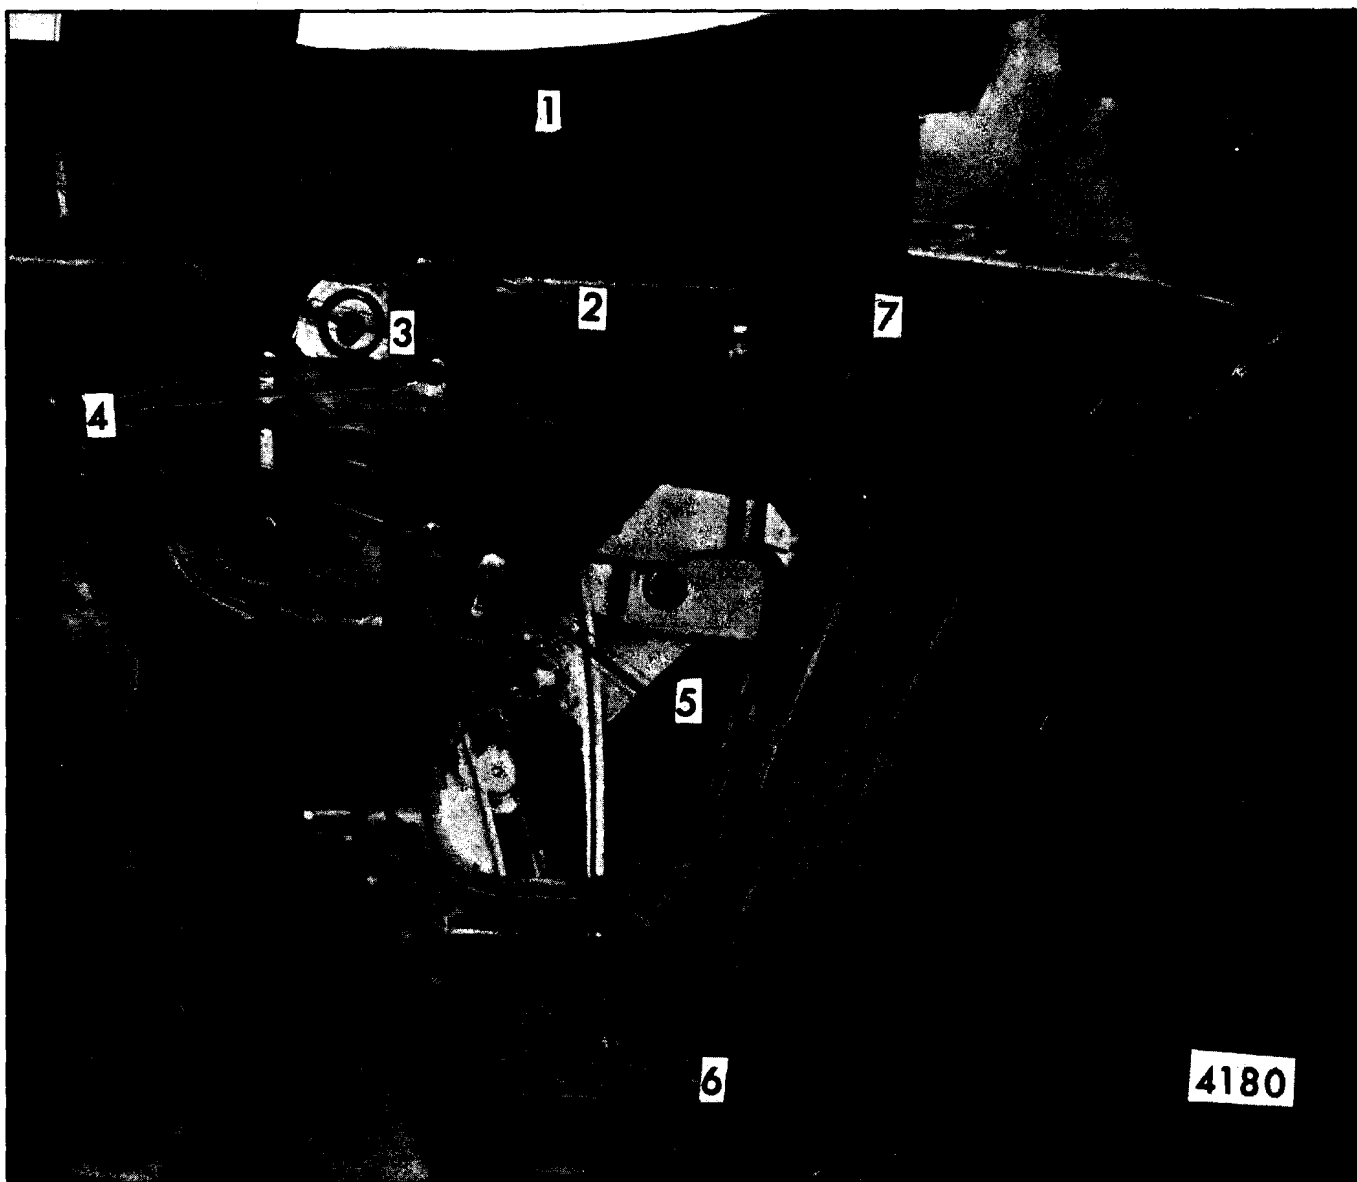

Fig. 7-18-Rear Quarter Hardware - "B-C-47, 57" Styles (All "E" Body Styles Similar)
3. Remove upper support to guide bolts ("1" Fig. 7-18 and 7-19). Remove lower support guide bolt ("6" Fig. 7-18 and 7-19) and lower window glass and guide assembly into quarter panel to gain access to outer sealing strip attaching rivets.
3. Remove rear up-travel stop bolt ("7" Figure 7-18 and 7-19) and remove stop from inner panel.
4. Remove lower down-travel stop bolt ("5" Figure 7-18 and 7-19) and remove stop from inner panel.
5. Remove attaching bolts from upper support assembly to inner panel ("2" Figure 7-18 and 7-19).
6. Remove attaching bolts from lower guide support ("6" Figure 7-18 and 7-19).
4. Remove regulator attaching bolts. Remove regulator through access hole (see Figs. 7-18 and 7-19).